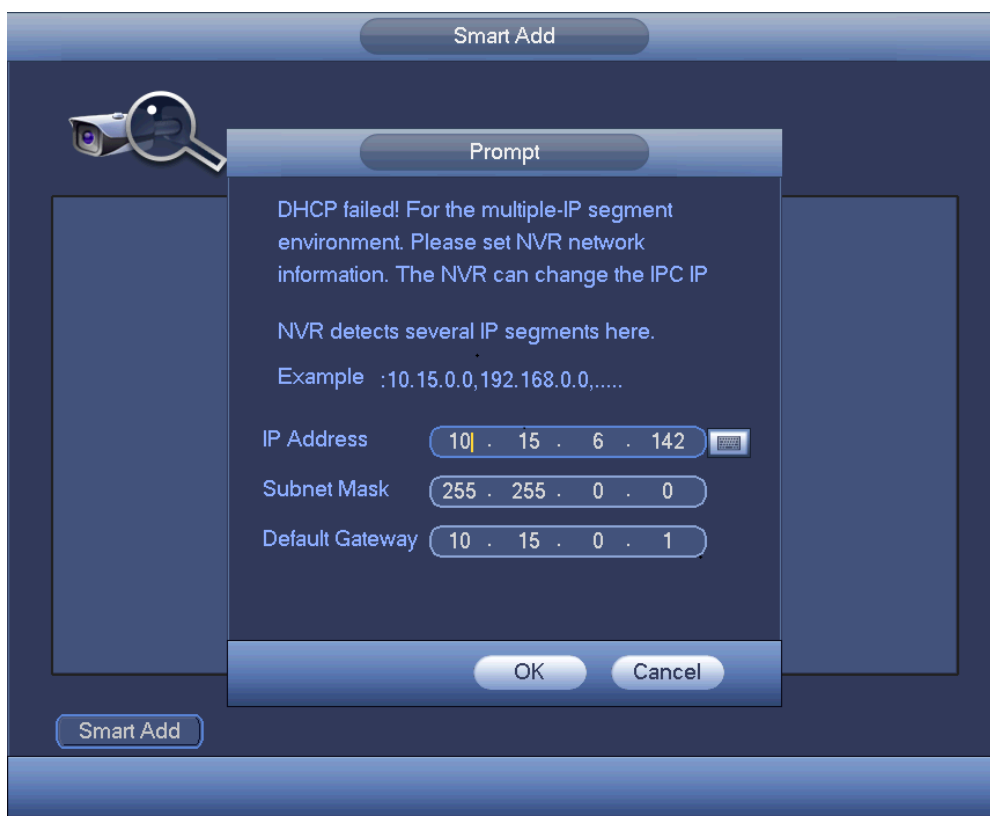

Figure 4-21
- 2) Device goes to change IP address interface. Please change IP address if necessary and then click OK button. See Figure 4-21. Please note this step is optional.